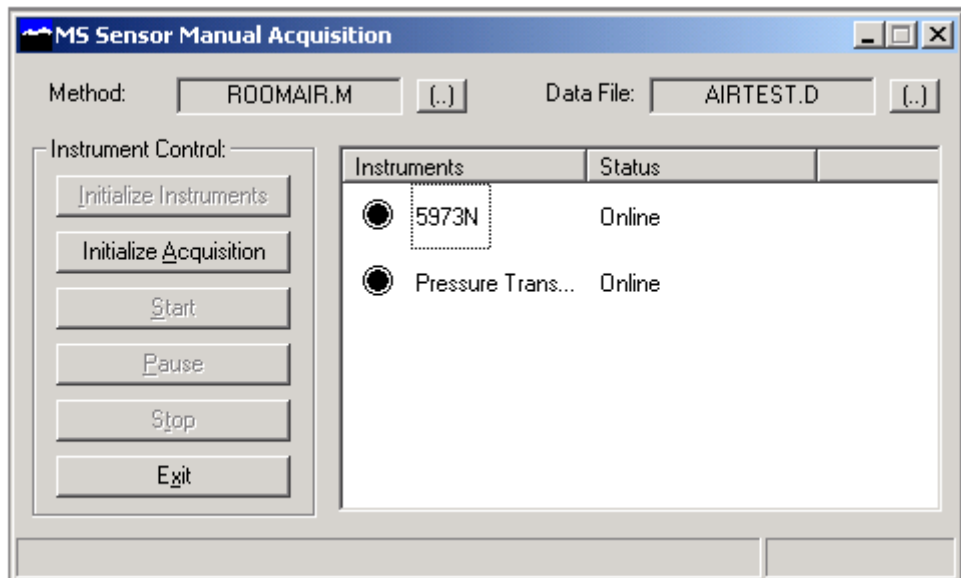

Figure 18 Initializing the instruments
- 4 Notice that the two instruments used in the method are listed in the window on the right. **5973N** and **Pressure transducer** are both offline. Click **Initialize Instruments** to bring the instruments online (Figure 18).